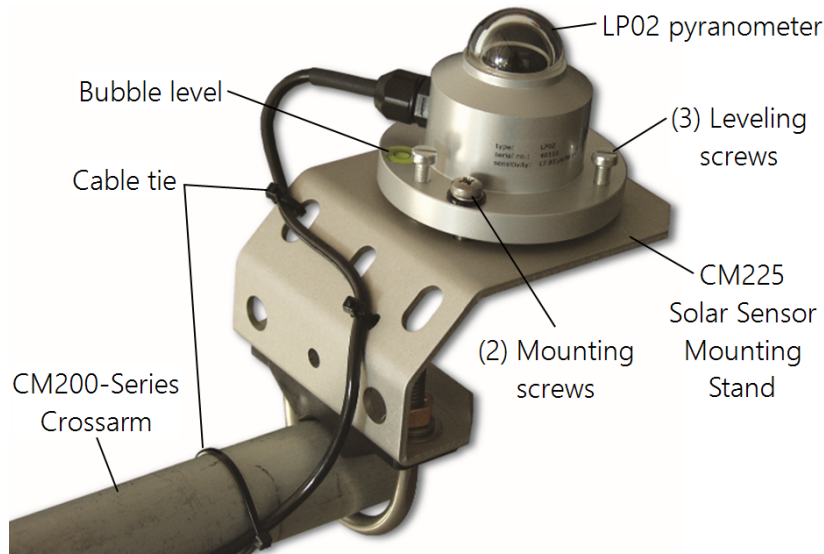

FIGURE 7-4. LP02 Pyranometer attached to CM225 Solar Sensor Mounting Stand
- Place the mounting screws in the mounting holes and slightly tighten them. The levelling screws should lightly touch the mounting plate (see FIGURE 7-4 (p. 9)).
- Starting with the levelling screw nearest the bubble level, turn the levelling screws to bring the bubble of the bubble level within the ring (see FIGURE 7-4 (p. 9)).
- Use cable ties to secure the cable to CM225 bracket and to the vertical pipe or crossarm and tripod/tower (see FIGURE 7-4 (p. 9)).